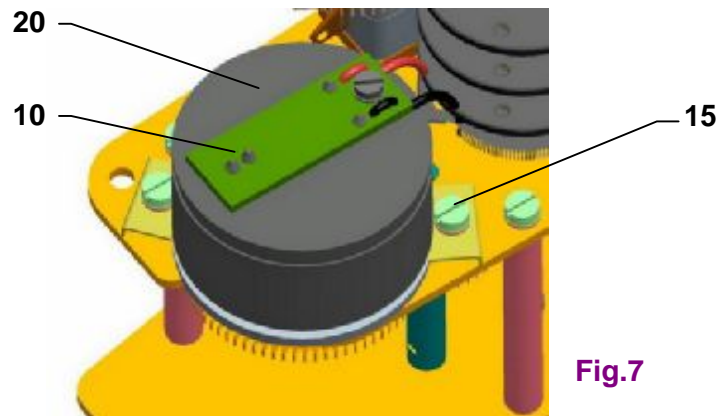

Fig.7
4.5 Adjustment of Capacitive Transmitter CPT1/A (Fig.7)